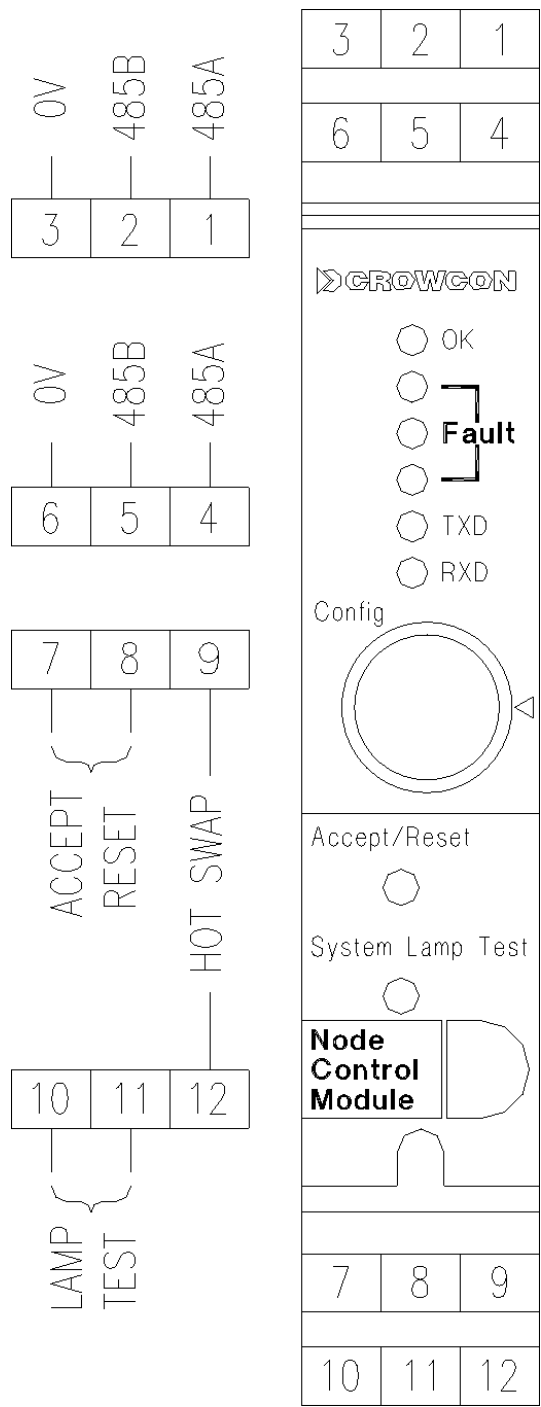

Figure 17: Wiring diagram for the Node Controller Module
1. To use Hot Swap, connect node controller terminal 9 to terminal 12 while in run mode (not held on a channel). See Figure 17 in Appendix B. During Hot Swap, the sounder sounds repeatedly and the Reading display shows the word "Stop". The system stops monitoring, but relays remain unchanged.